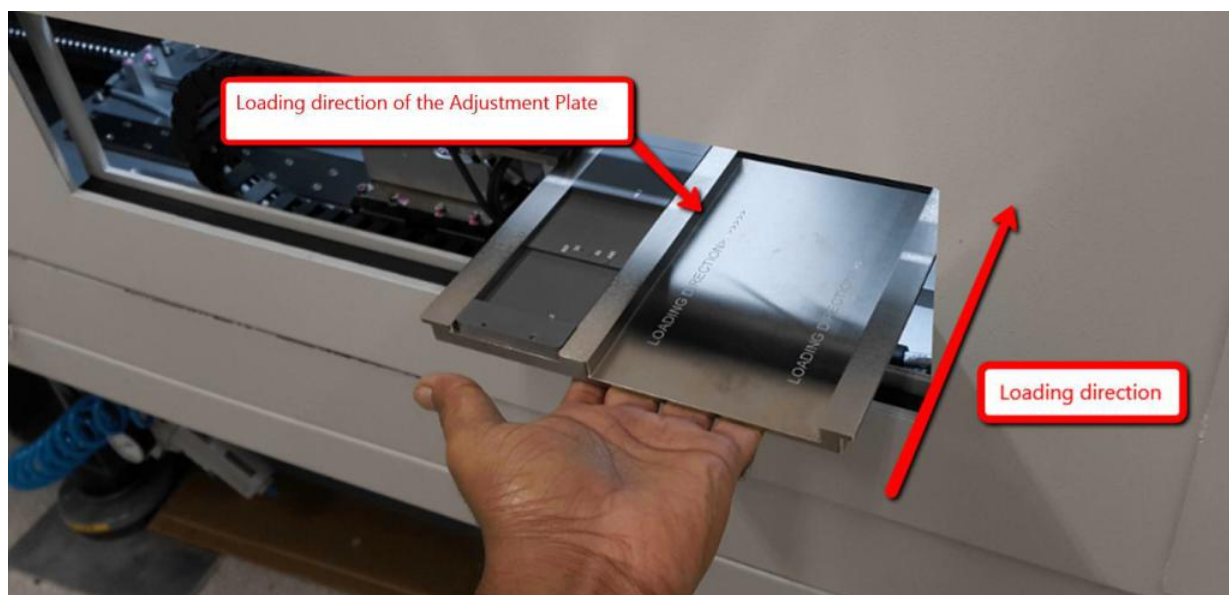

Figure 56 Jig loading
41. Insert the jig once the left outer barrier open as shown in the Figure 56. Once the jig have been loaded, continue with the Step 42.